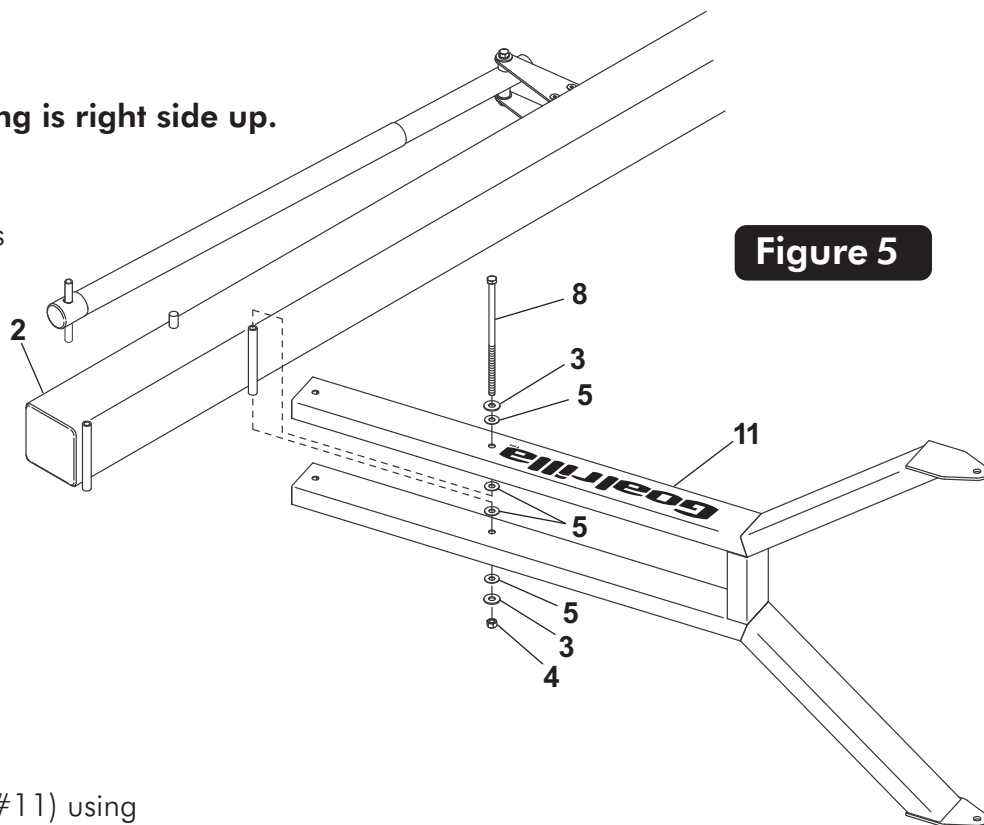

Figure 5
5. Attach lower arm (#11) to Pole (#2), as shown in **Figure 5**, using a bolt (#8), two flat washers (#3), four plastic washers (#5) and hex nut (#4).